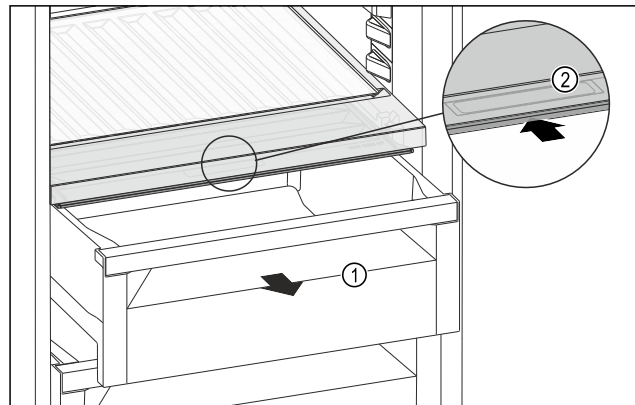

Fig. 156
- ▶ Pull out the drawer *Fig. 156 (1)*.
- ▶ Grasp the recessed grip *Fig. 156 (2)* on the compartment lid and push the compartment lid backwards at the same time.